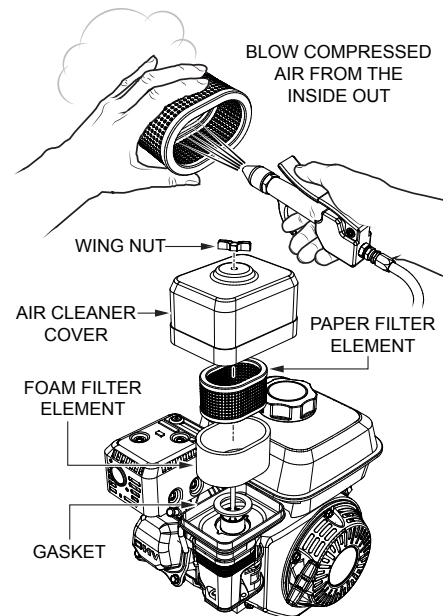

Figure 22. Engine Air Cleaner
1. Remove the air cleaner cover and foam filter element as shown in Figure 22.
2. Tap the paper filter element (See Figure 22) several times on a hard surface to remove dirt, or blow compressed air [not exceeding 30 psi (207 kPa, 2.1 kgf/cm²)] through the filter element from the air cleaner case side. **NEVER** brush off dirt. Brushing will force dirt into the fibers. Replace the paper filter element if it is excessively dirty.